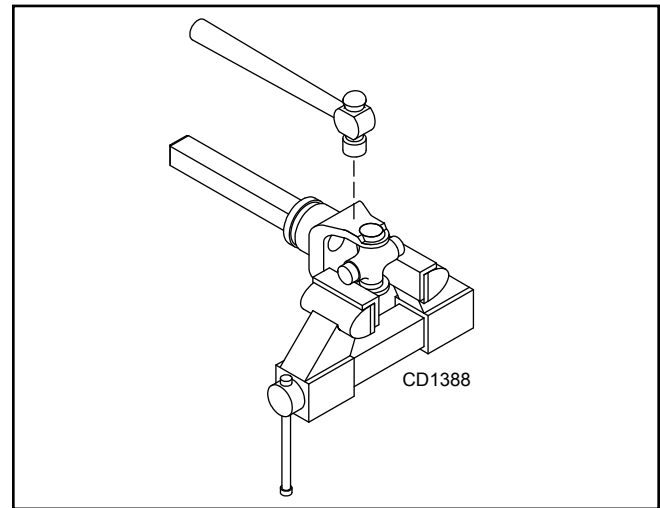

Figure 25.
4. Place universal cross in vise as shown in Figure 25 and tap on yoke to remove cup. Repeat Step 3 for final removal. Drive remaining cup out with a drift and hammer.